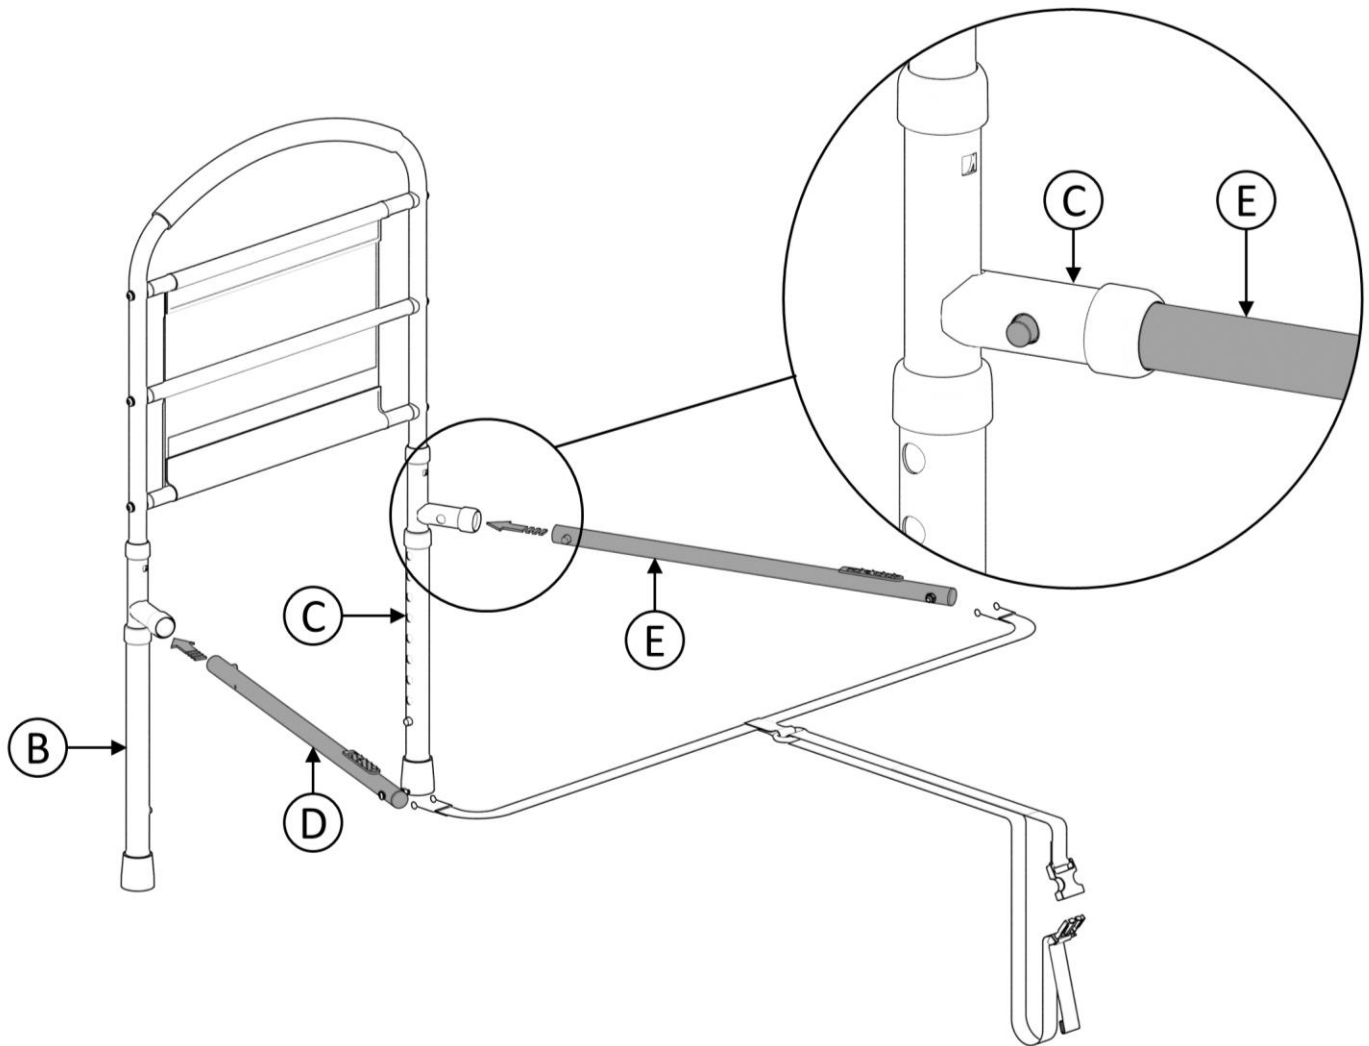

FIGURE 3
3. Insert Base Tubes **D** and **E** into Legs **B** and **C** respectively, as shown in *FIGURE 3*. **NOTE:** Ensure that the red mattress grippers on **D** and **E** are facing up, the strap is not tangled, and the Spring Pins in **D** and **E** fully engage the holes in **B** and **C**.